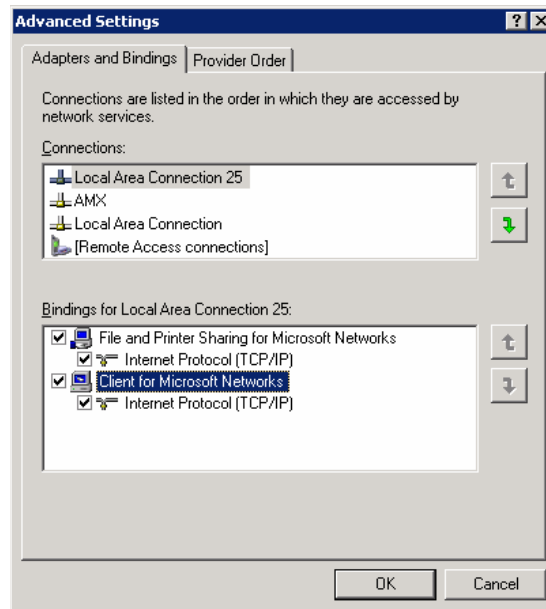
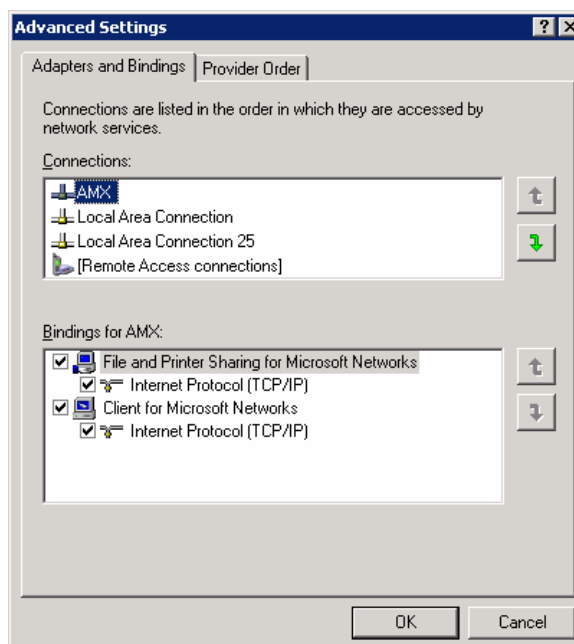

FIG. 86 Advanced Settings window
FIG. 87 Moving the Local Area Connection
- From the *Advanced* menu, select *Advanced Settings...* to open the *Advanced Settings* window (FIG. 86).
- Under the *Adapters And Bindings* tab, the user needs to make sure the *Local Area Connection* is not at the top of the *Connections* list. If it is at the top of the list (FIG. 86), select it and use the *down* arrow to the right of the list to move it to the bottom of the list (FIG. 87).